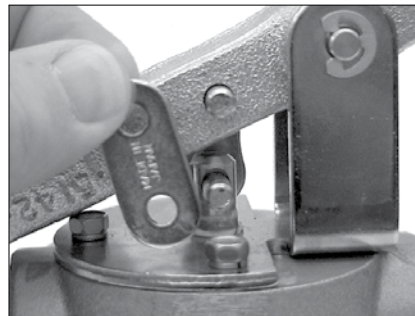

Figure 17c
6. While keeping pressure on the valve, remove the two pieces of the connection link (Figure 17c-d).